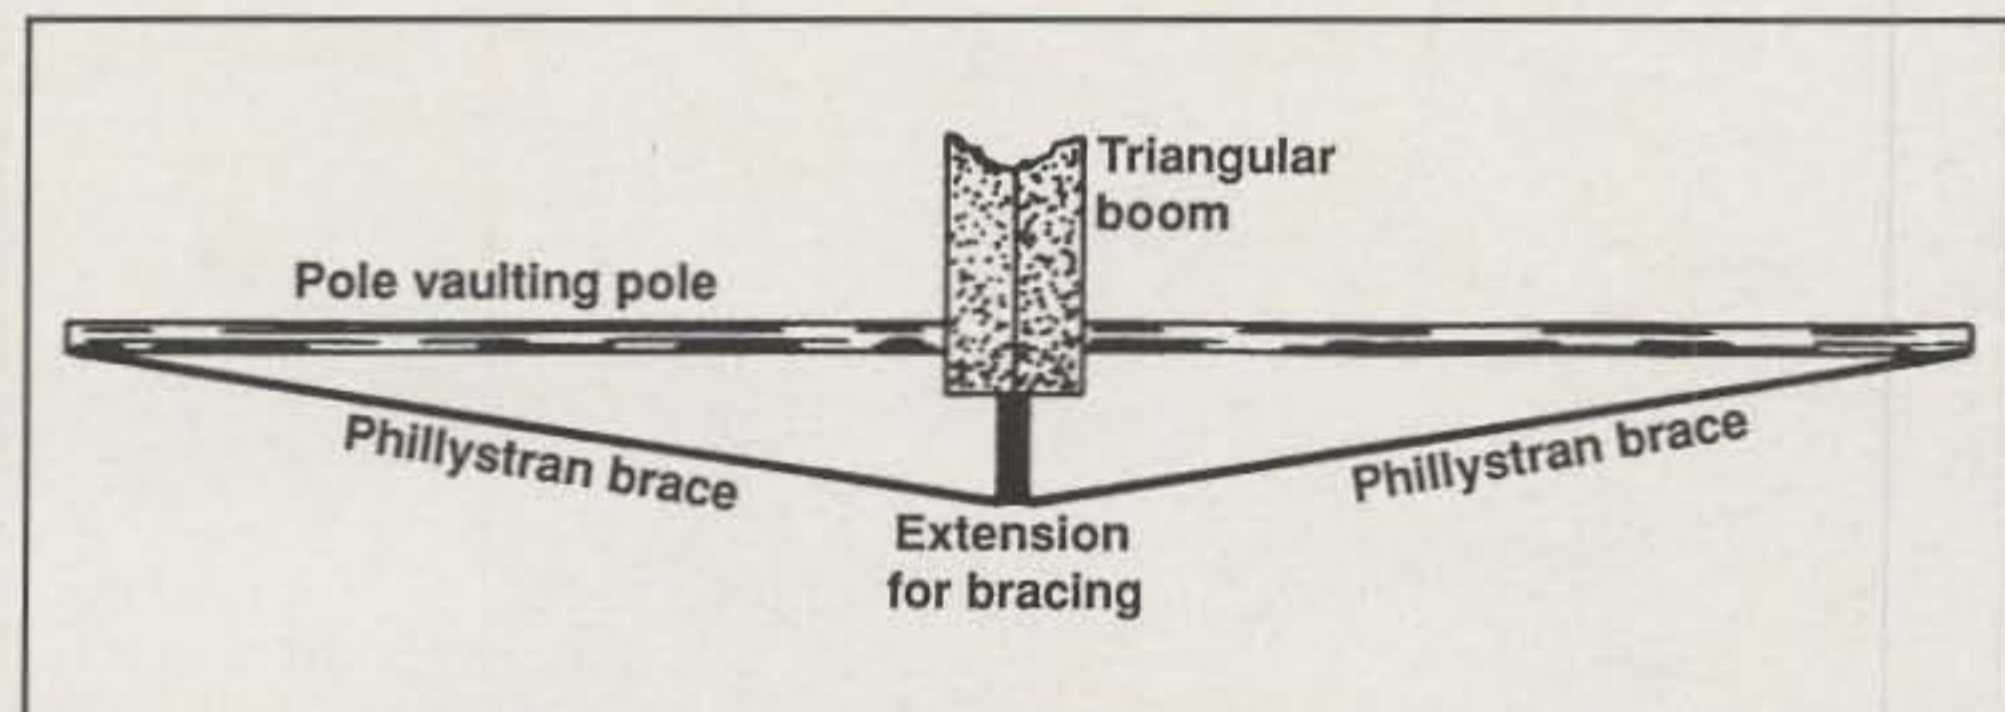

Fig. 5— Top view showing horizontal bracing.
The end poles are also braced in the horizontal plane as shown in fig. 5 to prevent the poles from flexing towards the center. Phillystran(R) was used to provide the support because of its strength and light weight.